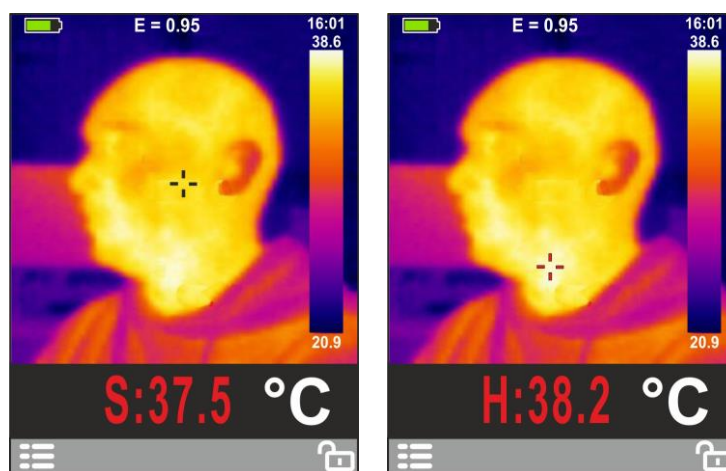

Fig. 18: Visualization of alarm condition in Screening function
7. Frame the subject on test at a recommended distance of 1m. With temperature of the subject higher than the set alarm threshold value, the instrument shows the value associated with the cursor "S" in red color in the lower part of the display (see Fig. 18 – left part)
8. With activation of the "H" cursor (hottest point) the instrument always shows as priority the point with maximum temperature of the framed image. If this value is higher than the set alarm threshold it will be shown in red color in the lower part of the display (see Fig. 18 – right part)